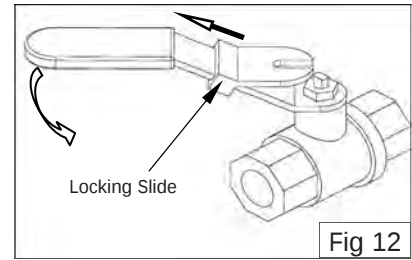

Fig 12
- b. While holding locking slide in withdrawn position, rotate handle anticlockwise (Fig 12) to open valve.